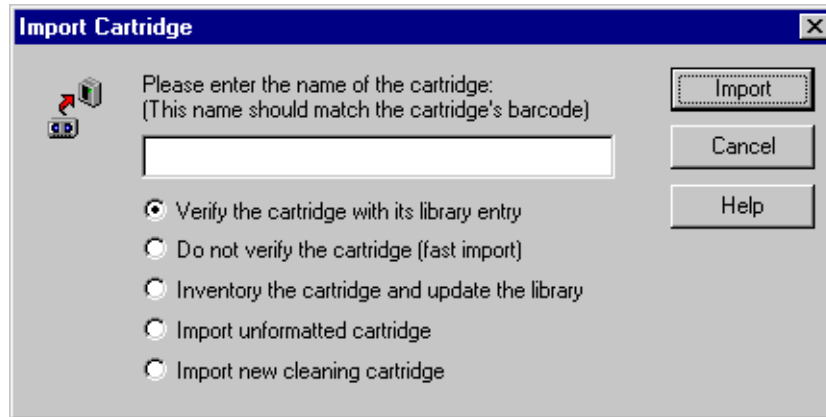

Figure 36. Import Cartridge dialog box
2. Choose **Import** either from the **File** menu or from the shortcut menu with a right-click. The Import Cartridge dialog box appears (see Figure 36). If you have two or more PLS20 systems connected simultaneously, you must enter a drive number when prompted.